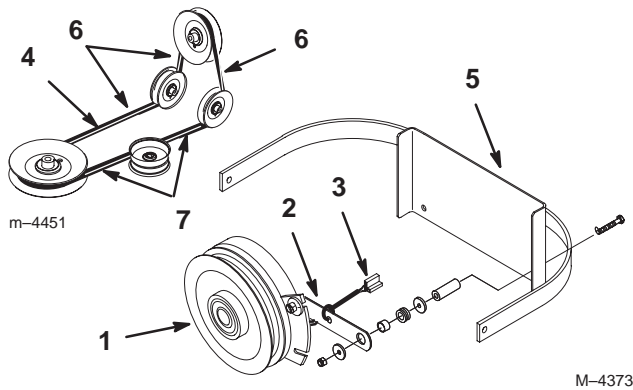

Figure 58
2. Remove the clutch retaining strap from machine frame and unplug clutch terminal from wire harness (Fig. 58).
3. Remove PTO drive belt from rear idler arm and front idler pulley assembly. Remove the PTO drive belt (Fig. 58).
4. Place new drive belt over clutch, around rear idler pulley, installed into rear idler arm assembly, installed into front idler pulley assembly and onto top center pulley (Fig. 58).
Important Check the amount of twist in belt between pulleys. Make sure it is only what is specified in figure 58.
5. Install clutch retaining strap and plug clutch terminal into main wire harness (Fig. 58).